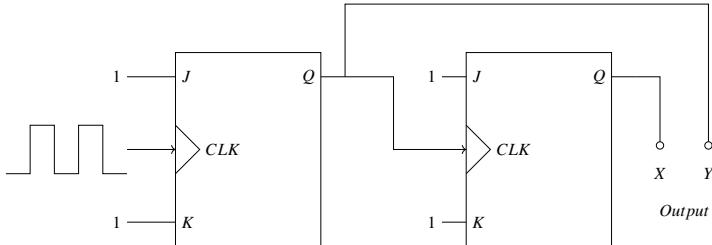

Fig. 5.17
17. The circuit shown in Fig. 5.17 below uses ideal positive edge-triggered synchronous $J - K$ flip flops with outputs X and Y . If the initial state of the output is $X = 0$